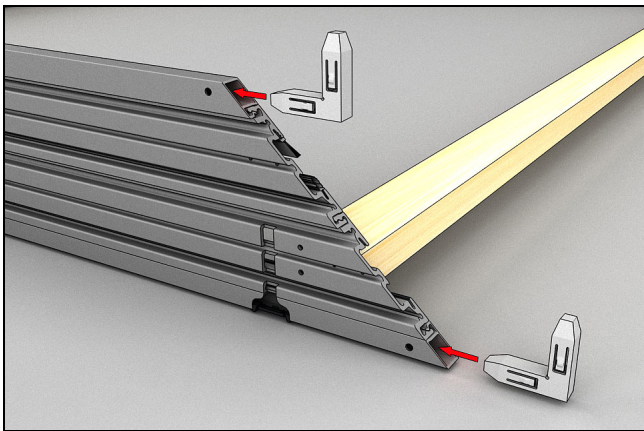

Figure 10
12. Insert the sill liner corner keys into the sill liner on the mitered ends. See Figure 10.